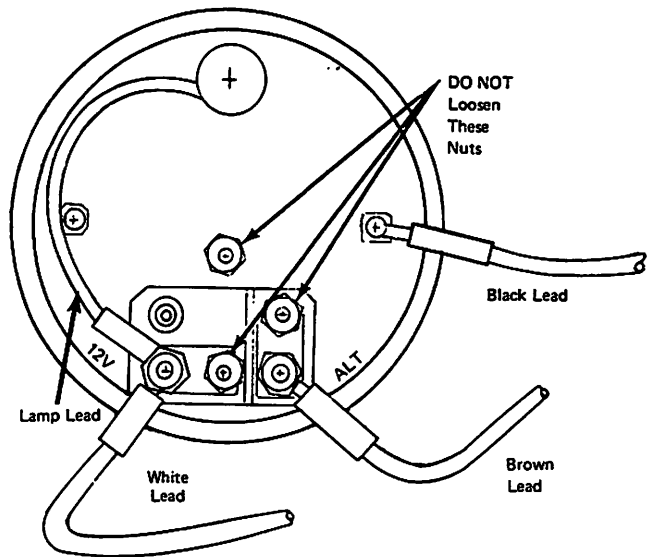

Figure 1. Tachometer Wiring
- a. Connect brown lead to terminal marked "ALT". (Figure 1)
- c. Connect black lead to stud as shown. (Figure 1)